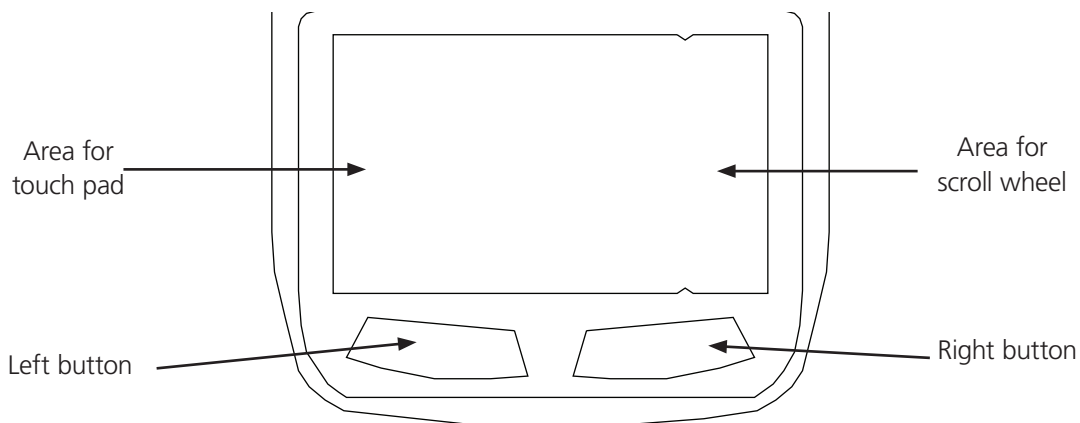

Figure 4-2. Touch pad.
5. Use the touch pad (see Figure 4-2) to simulate a wheel mouse. The touch pad's area to the right side of the two small triangular marks is the simulated scroll area. Move your finger along this area to scroll up or down on the computer's screen. The touch pad area enables you to move the cursor anywhere on your computer's screen by sliding your finger along this area.